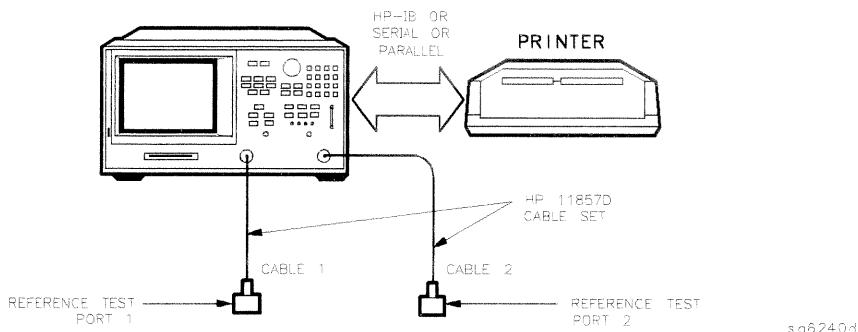

Figure 2-1. System Verification Test Setup
1. Connect the equipment as shown in Figure 2-1. Let the analyzer warm up for one hour.